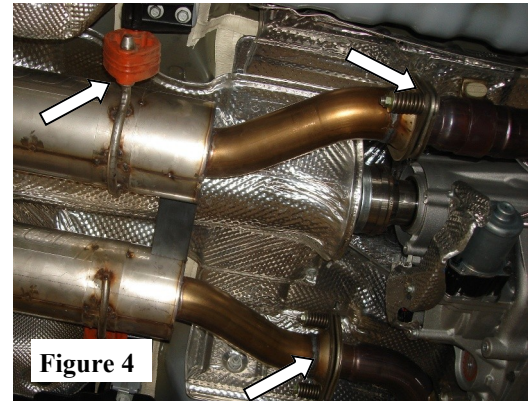

Figure 4
1. Using the original hardware, place the X-Pipe Muffler Assembly into position making sure to install the hangers into the rubber isolator. Hand tighten the flange making sure the original hardware is oriented as shown. (See Fig. 4)